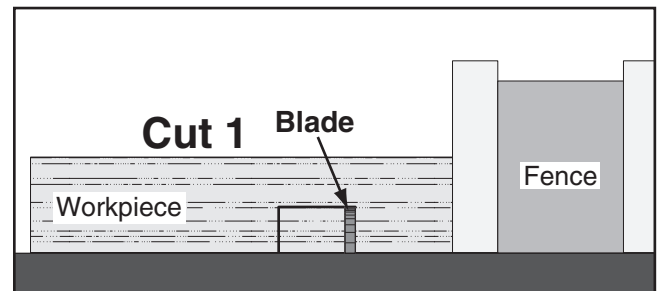

Figure 97. First cut for a single-blade dado.
6. Align the blade to cut one of the dado sides, as shown in **Figure 97**.